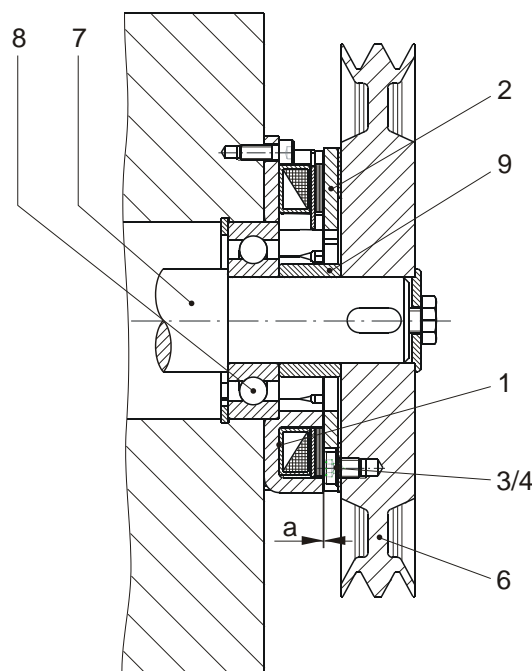
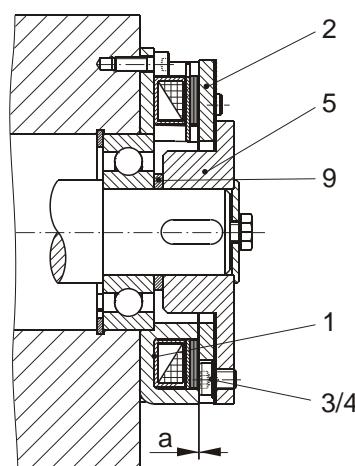

Fig. 2
Fig. 3
The braking torque is transmitted by friction between armature disk (2) and the iron poles and the friction lining surfaces of the coil carrier (1). The coil carrier (1) is screwed onto the machine wall and centred on the shaft bearing, see Figs. 2 and 3 on page 7.
The air gap "a" is defined via a distance ring between the shaft bearing and the drive element (Fig. 2) or inner hub (Fig. 3).
Installation Examples (Figs. 2 and 3)
In operation, the armature disk (2) is attracted to the coil carrier (1). The braking torque is transmitted via frictional locking from the coil carrier (1) via the armature disk (2) with the transmission spring and the V-belt disk (Item 6 / Fig. 3) or the flange hub (Item 5 / Fig. 4) onto the drive shaft (7).
- ➔ Centred by a ball bearing (8), Figs. 2/3.
- 3.1. Adjust the air gap "a" according to Table 1 and Figs. 2/3.
- 3.2. Secure the mounting part or flange hub (5) axially backlash-free.
Axial backlash changes the air gap "a" and can lead to the armature disk (2) rubbing against the coil carrier (1) (see Installation Examples Figs. 2 and 3).